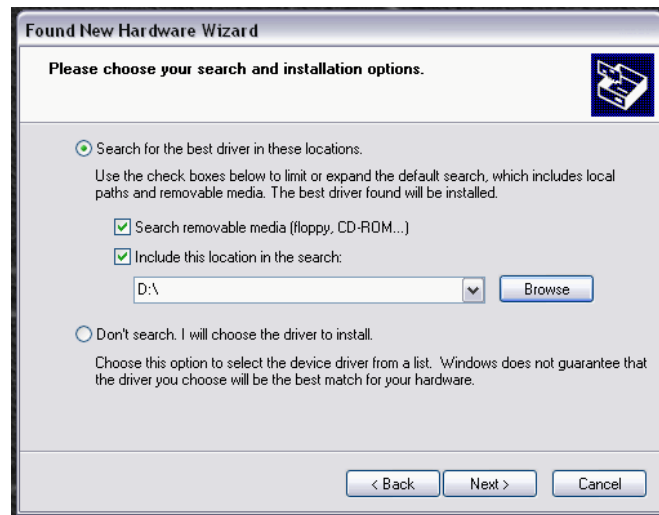

Figure 6: Include a Relevant Search Path
11. Click the **Browse** button to find the location of the FTDI driver package. See Figure 6.